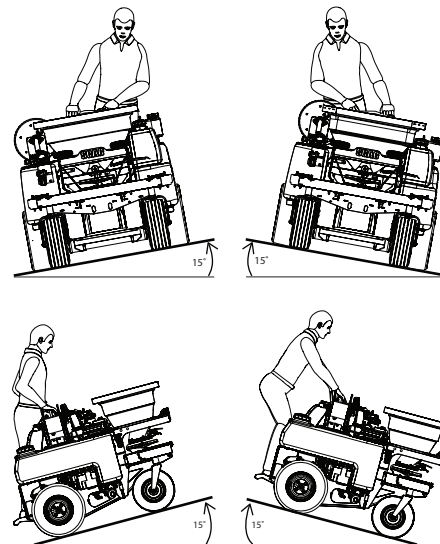

Figure 4-22. Slope Operation
15. Make sure to lean to properly transfer your weight while driving on a slope. See Figure 4-22.